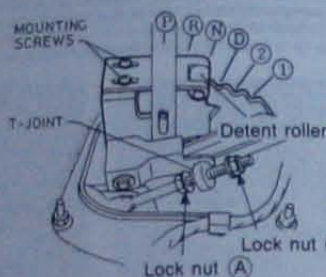

Fig. 7.4 Shift control cable adjustment showing locknuts and detent roller engaged in the 'N' position (Sec 9)
- 6 At the lever end of the selector cable, loosen off the locknuts and then move the selector lever to 'N'. Detent roller must be fully engaged in the 'N' position - see Fig. 7.4.